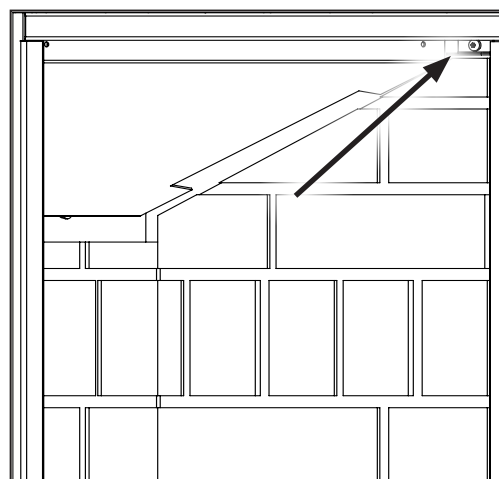

Figure 60. Top Panel Retainers.
3. Next, remove the top brick panel retainers on each side as shown in Figure 60 using a T20 screwdriver.